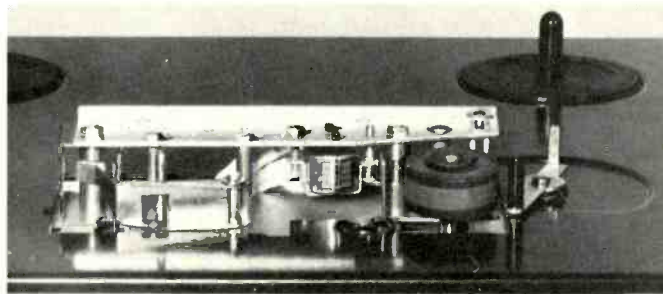
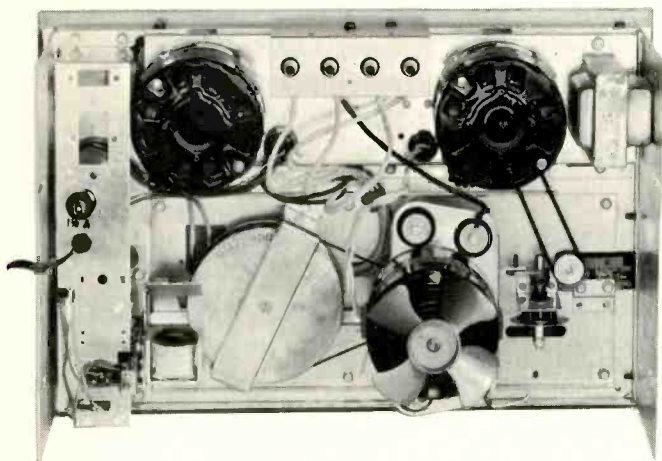

Fig. 2—Showing the tape head and capstan.
Fig. 3—Underneath view.
Looking at Fig. 1, we see a digital counter on the left and just under this is the speed change lever. On the right is the ON-OFF, STANDBY, and PLAY switch, and under that is a similar switch controlling rewind direction. In the center is a pilot light which indicates whether power is on. Figure 2 shows the tape head and capstan, and Figure 3 shows the view from underneath. Note the large, dynamically balanced flywheel which weighs two pounds!
**Fig. 2**—Anti-skating adjustment knob, with its two scales—the one for conical styli adjusts for as much as five grams, while the one for elliptical styli adjusts only to three grams, which is, of course, about as high a force as should ever be used for these popular styli. The slotted screw head to the left of the knob adjusts the tonearm cueing height.